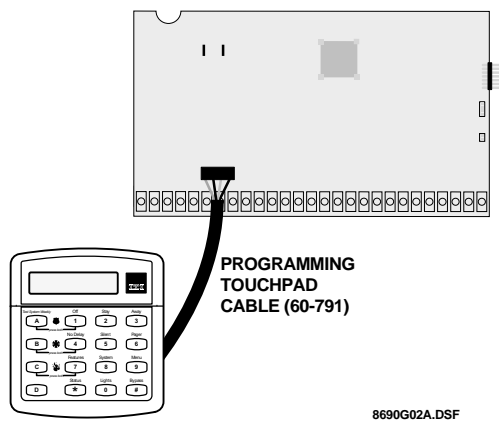

Figure 39. Connecting a Programming Touchpad
3. Connect the plug on the cable onto the panel programming touchpad header (see Figure 39).